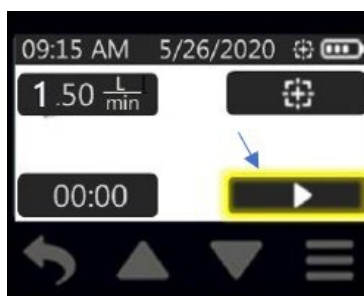

Figure 30. Run Button
4.3.1.5 Touch the Run button to start the pump (Figure 30).